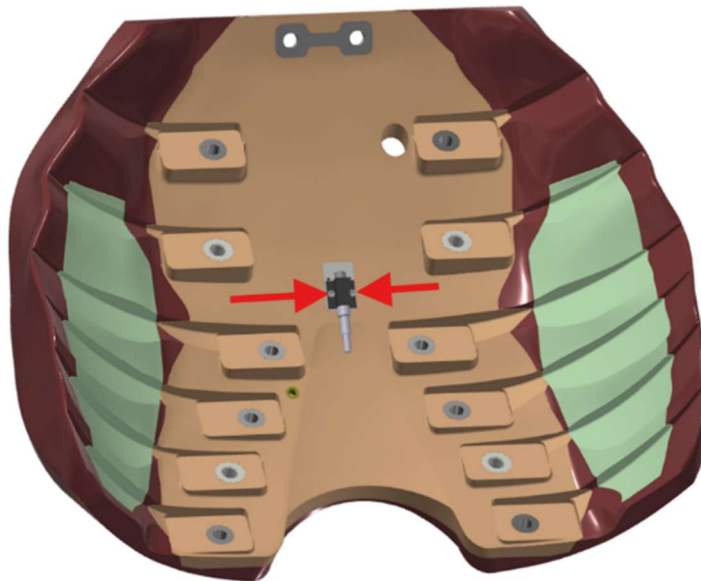

Figure 5-15. Remove the Sternum Accelerometer from the back side of the Chest Flesh
- 5.2.9 Remove the chest accelerometer from the back side of the Chest Flesh Sternum, Molded (474-3730-A) by removing two M1.4 X 0.3 X 3 LG. SHCS (Figure 5-15).